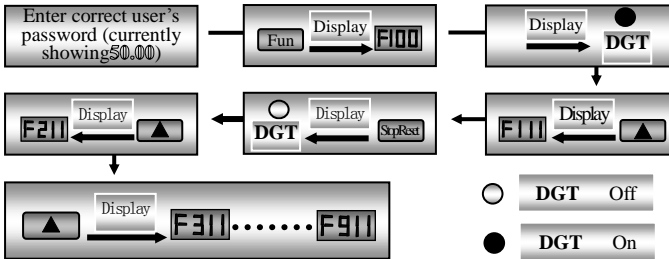

Fig 2-2 Switch over in a Code Group or between Different Code-Groups
e.g. when function code shows F111 and DGT indicators on, press “▲”/ “▼” key, function code will keep increasing or decreasing by degrees within F100~F160; press “stop/reset” key again, DGT indicator will be off. When pressing “▲”/ “▼” key, function codes will change circularly among the 10 code-groups, like F211, F311...FA11, F111.... Refer to Fig 2-2 (The sparkling “50.00?” is indicated the corresponding target frequency values).